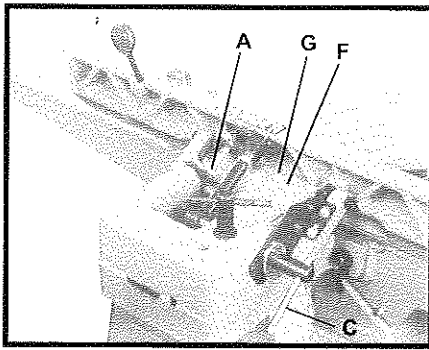
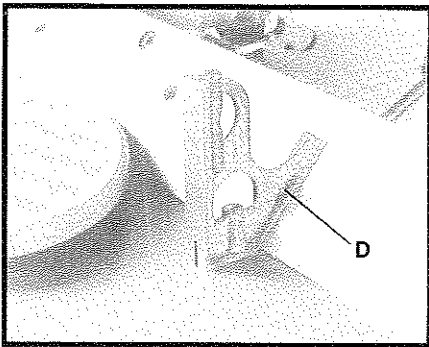

Fig. 16
Fig. 17
1. Loosen lock lever (C) (Fig.16).
2. Pull out and turn plunger (A).
4. Re-tighten lock lever (C).
5. Place a square (D) onto the table against the fence (Fig.17)
7. If adjustments are required for fence tilting; loosen nut (F).
8. Adjustment screw (G) should be turned until you have obtained a 45° outward angle.
9. Re-tighten nut (F).